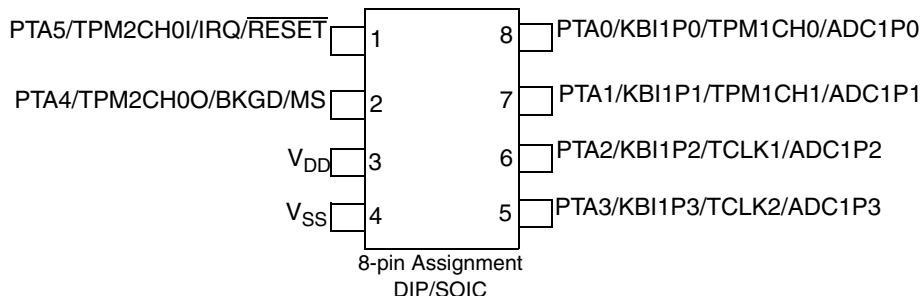
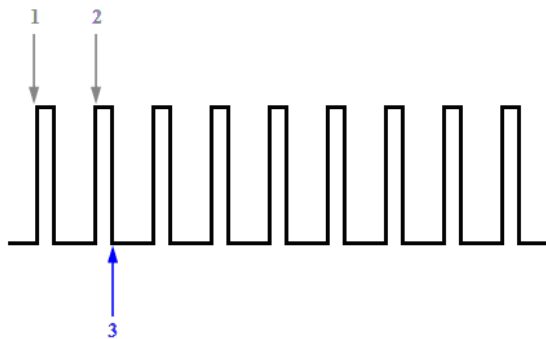

Figure 7. MC9S08QD4 8-Pin Package
Figure 8. Input Signal Data Measurements
The code can take samples of the duty cycle and determine the percentage of the duty. As shown in Figure 7, PTA5 can be used with the TPM module configured as input capture. In this mode, the TPM2CH0I detects in rising-edge and falling-edge of all the changes of the input signal (Figure 8). These changes are stored as variables and then are calculated to produce the duty cycle. For details see the MC9S08QD4 Data Sheet.
2. **Check Mode** — This mode calculates the duty cycle of the input signal. The status of this routine is determined by monitoring the `Check` variable. Avoid using a previously calculated duty cycle. Interrupts are disabled and the `TPM2CH0I` is configured as input capture with a rising edge. When the code detects the first rising edge it waits for the second rising edge. See Figure 8. After the first rising edge is detected, the `TPM2` counter begins counting. When the second rising edge is detected the counter stops and the value is read. The `Frequency` variable is stored and the counter is reset to zero. Counting then begins again. Next, the `TPM2CH0I` is configured as input capture and falling edge while waiting for the third point. See Figure 8. When the third point is detected, the counter stops. This value is read and then stored in `Duty_Cycle_H` variable.